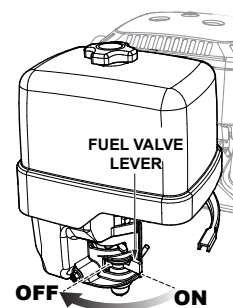

Figure 20. Fuel Valve Lever (OFF)
3. Place the fuel shut-off lever (Figure 20) in the **OFF** position.